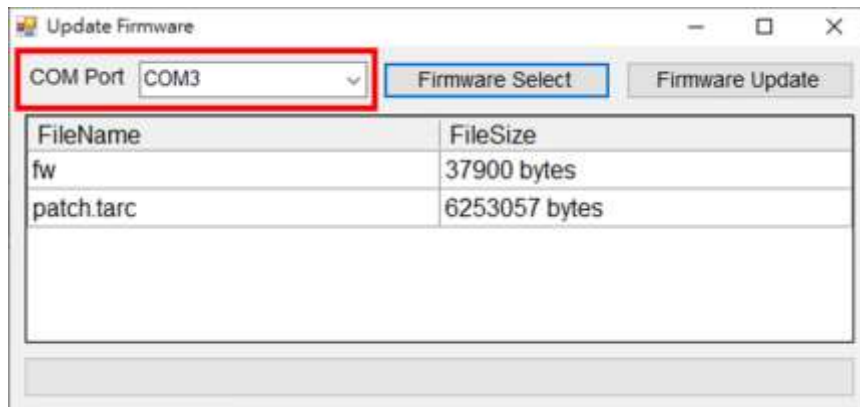

Figure 11.2.4
4. Select the COM Port, as shown in Figure 11.2.4.